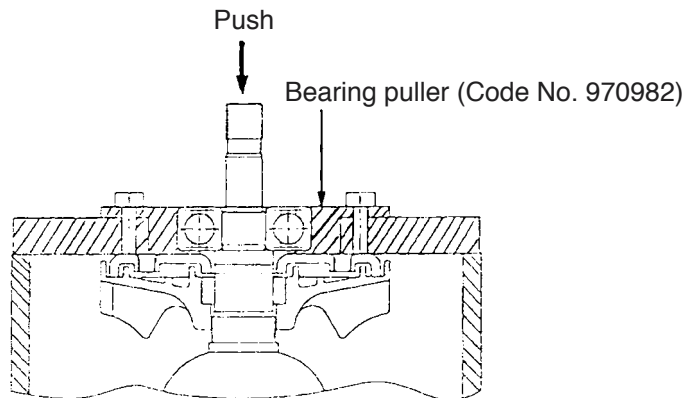

Fig. 8
5. After removing the two Seal Lock Screws (W/Sp. Washer) M5 x 14 (Black) **[1]** **<1>**, the Armature **[13]** **<13>** can be extracted together with Bearing Cover (A) **[12]** **<12>** and the related parts.
7. For the models indicated under Fig. 8, the Ball Bearing 6301VVCMP52L **[10]** **<10>** can be removed from the Armature **[13]** **<13>** by utilizing a J-204 Bearing Puller (special repair tool, Code No. 970982) as illustrated. After the ball bearing has been removed, Bearing Cover (A) **[12]** **<12>** can be easily taken off.